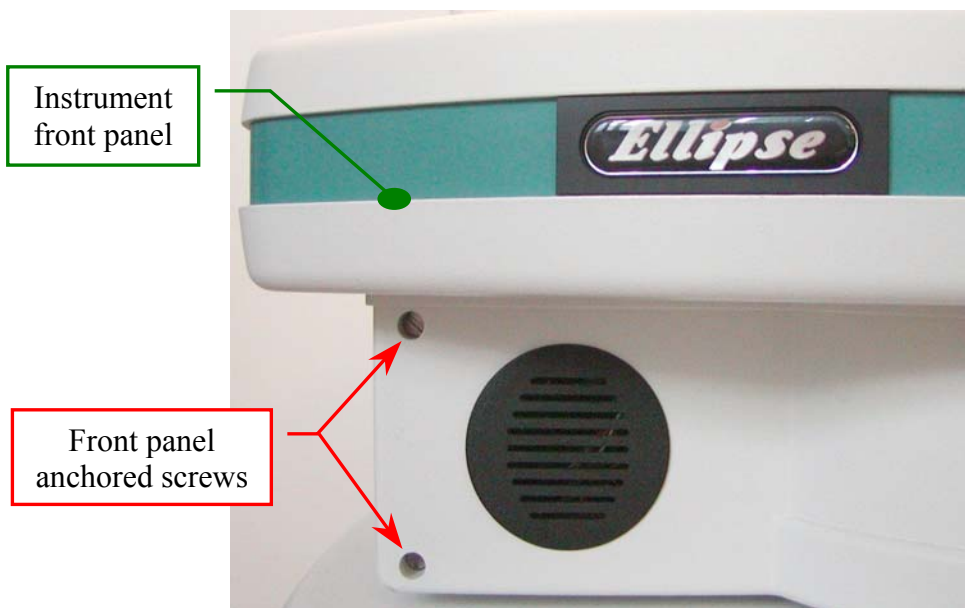

Fig. 73 - Front panel anchored screws
5. Remove the instrument front panel unscrewing the four anchored screws (**Fig. 73**).
2. Remove the instrument front panel unscrewing the four anchored screws (**Fig. 73**).
3. Remove the instrument front panel unscrewing the four anchored screws (**Fig. 73**).